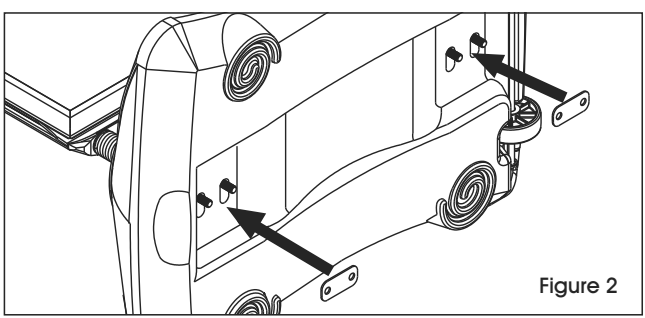

Figure 2
2. Place two-holed washer onto screws at bottom of base. (See Figure 2)